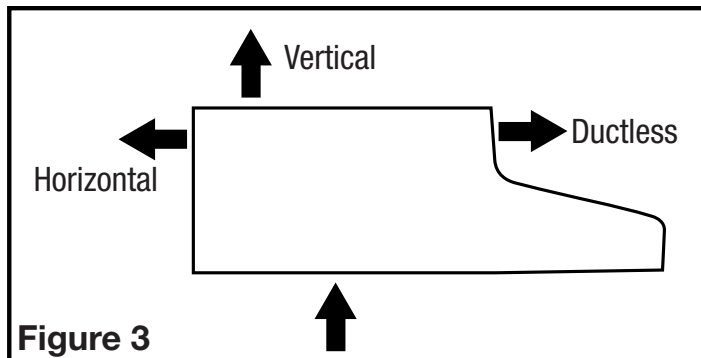

Figure 3
1. Choose the type of ducting you will require. To ensure the best air and sound performance, it is recommended that the length of ducting and the number of elbows be kept to a minimum, the radius of each elbow be as large as possible for the installation, and that hard ducting be used. Larger duct sizes will reduce noise and airflow restrictions. This model is equipped to vent either vertically or horizontally through a 3-1/4" x 10" duct. It can be modified to be ductless (re-circulates the air back into the kitchen) with the addition of a model CF-07 Charcoal Filter (not included) (**Figure 3**).